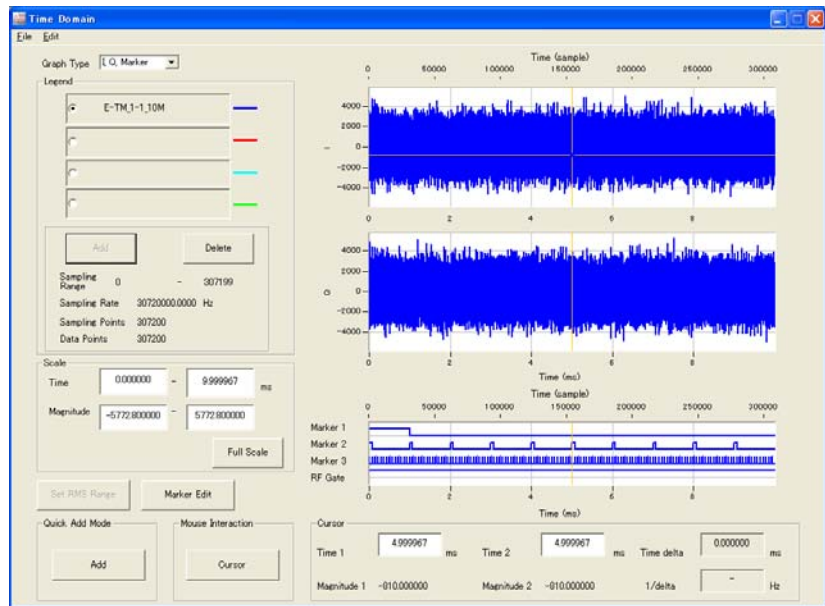

Figure 3.6-5 Time Domain Screen
2. Select **Time Domain** from the **Simulation** menu or click the  tool button. The Time Domain Graph Monitor screen shown in Figure 3.6-5 is displayed with the trace of the generated waveform pattern.